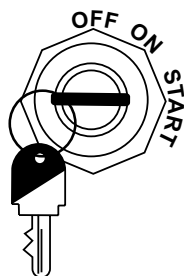

Figure 18. Engine Ignition Key
- Turn the engine ignition key (Figure 18) to the **START** position and hold it until the engine starts. When engine starts, release the key, allowing it to return to the **ON** position.